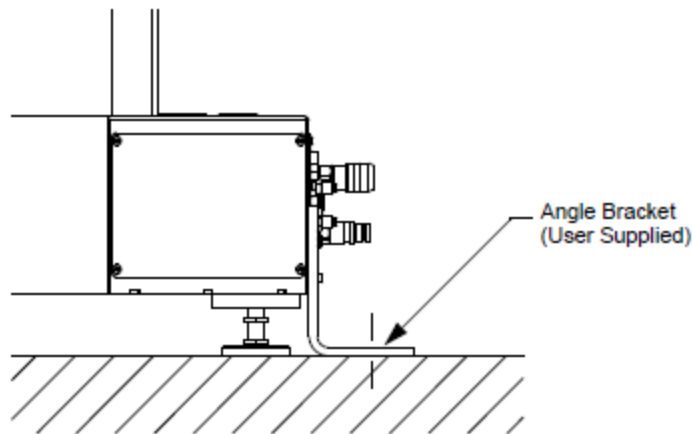

Figure 4-2: Seismic and Tie-down Bracket Mounting
Seismic brackets may be installed to secure the Vacuum Back End to the floor to eliminate movement and for earthquake protection. The caster brackets must be removed from the system and the system secured with angle brackets (not supplied) using the tapped holes in the side of the frame as shown in Figure 4-2.
2.	Locate the Seismic Brackets at the points the casters were attached to the frame as shown in Figure 4-2 .